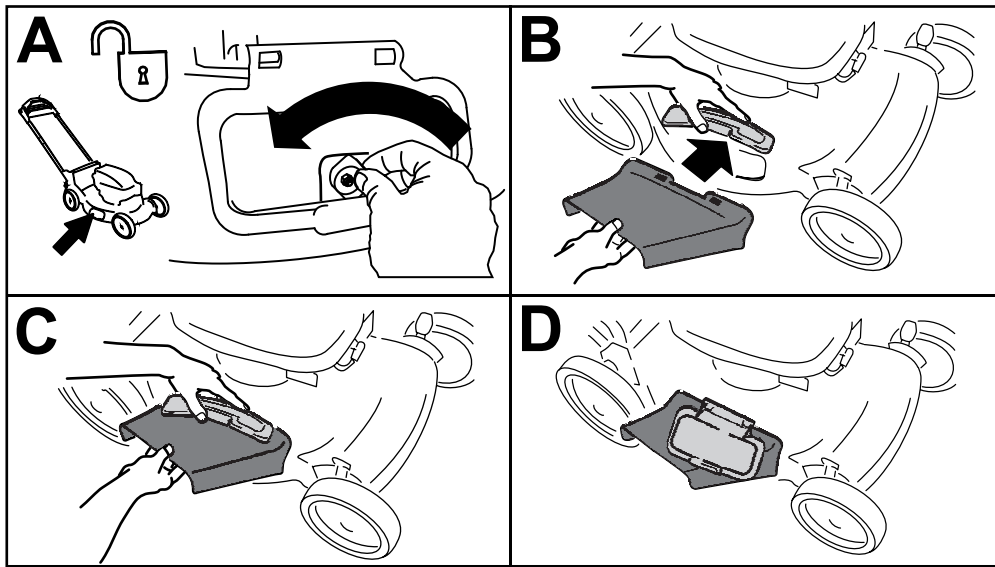

Figure 26
1. Unlock the side-discharge deflector (A of Figure 26).
2. Lift open the side-discharge deflector (B of Figure 26).
3. Install the side-discharge chute and close the deflector onto the chute (B, C, and D of Figure 26).